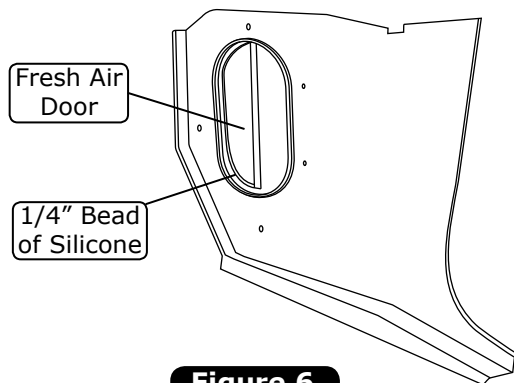

Figure 6
1. Remove the passenger side kick panel by removing the (2) #10 x 1" pan head screws. Disconnect the fresh air cable from the door, and discard the cable assembly. Close the fresh air door assembly in the kick panel, and seal the door with a 1/4" bead of silicone around it as shown in Figure 6, below.